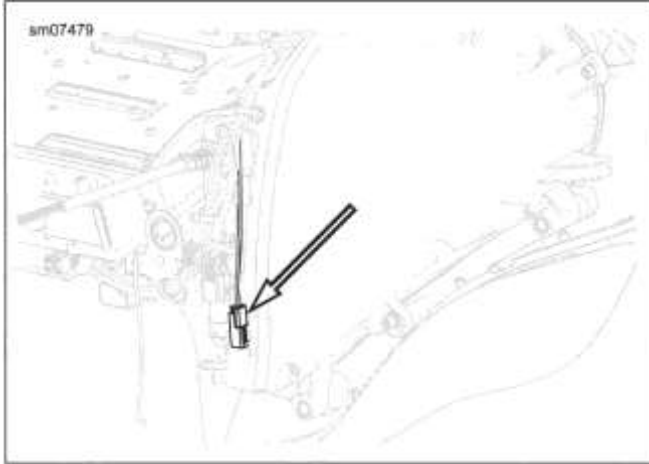

Figure 3-154. Front Fender Tip Lamp Connector
1. See Figure 3-154. Remove outer fairing and disconnect fender tip lamp connector, if equipped. See FAIRING: FORK MOUNTED (Page 3-89) or FAIRING: FRAME MOUNTED (Page 3-100).